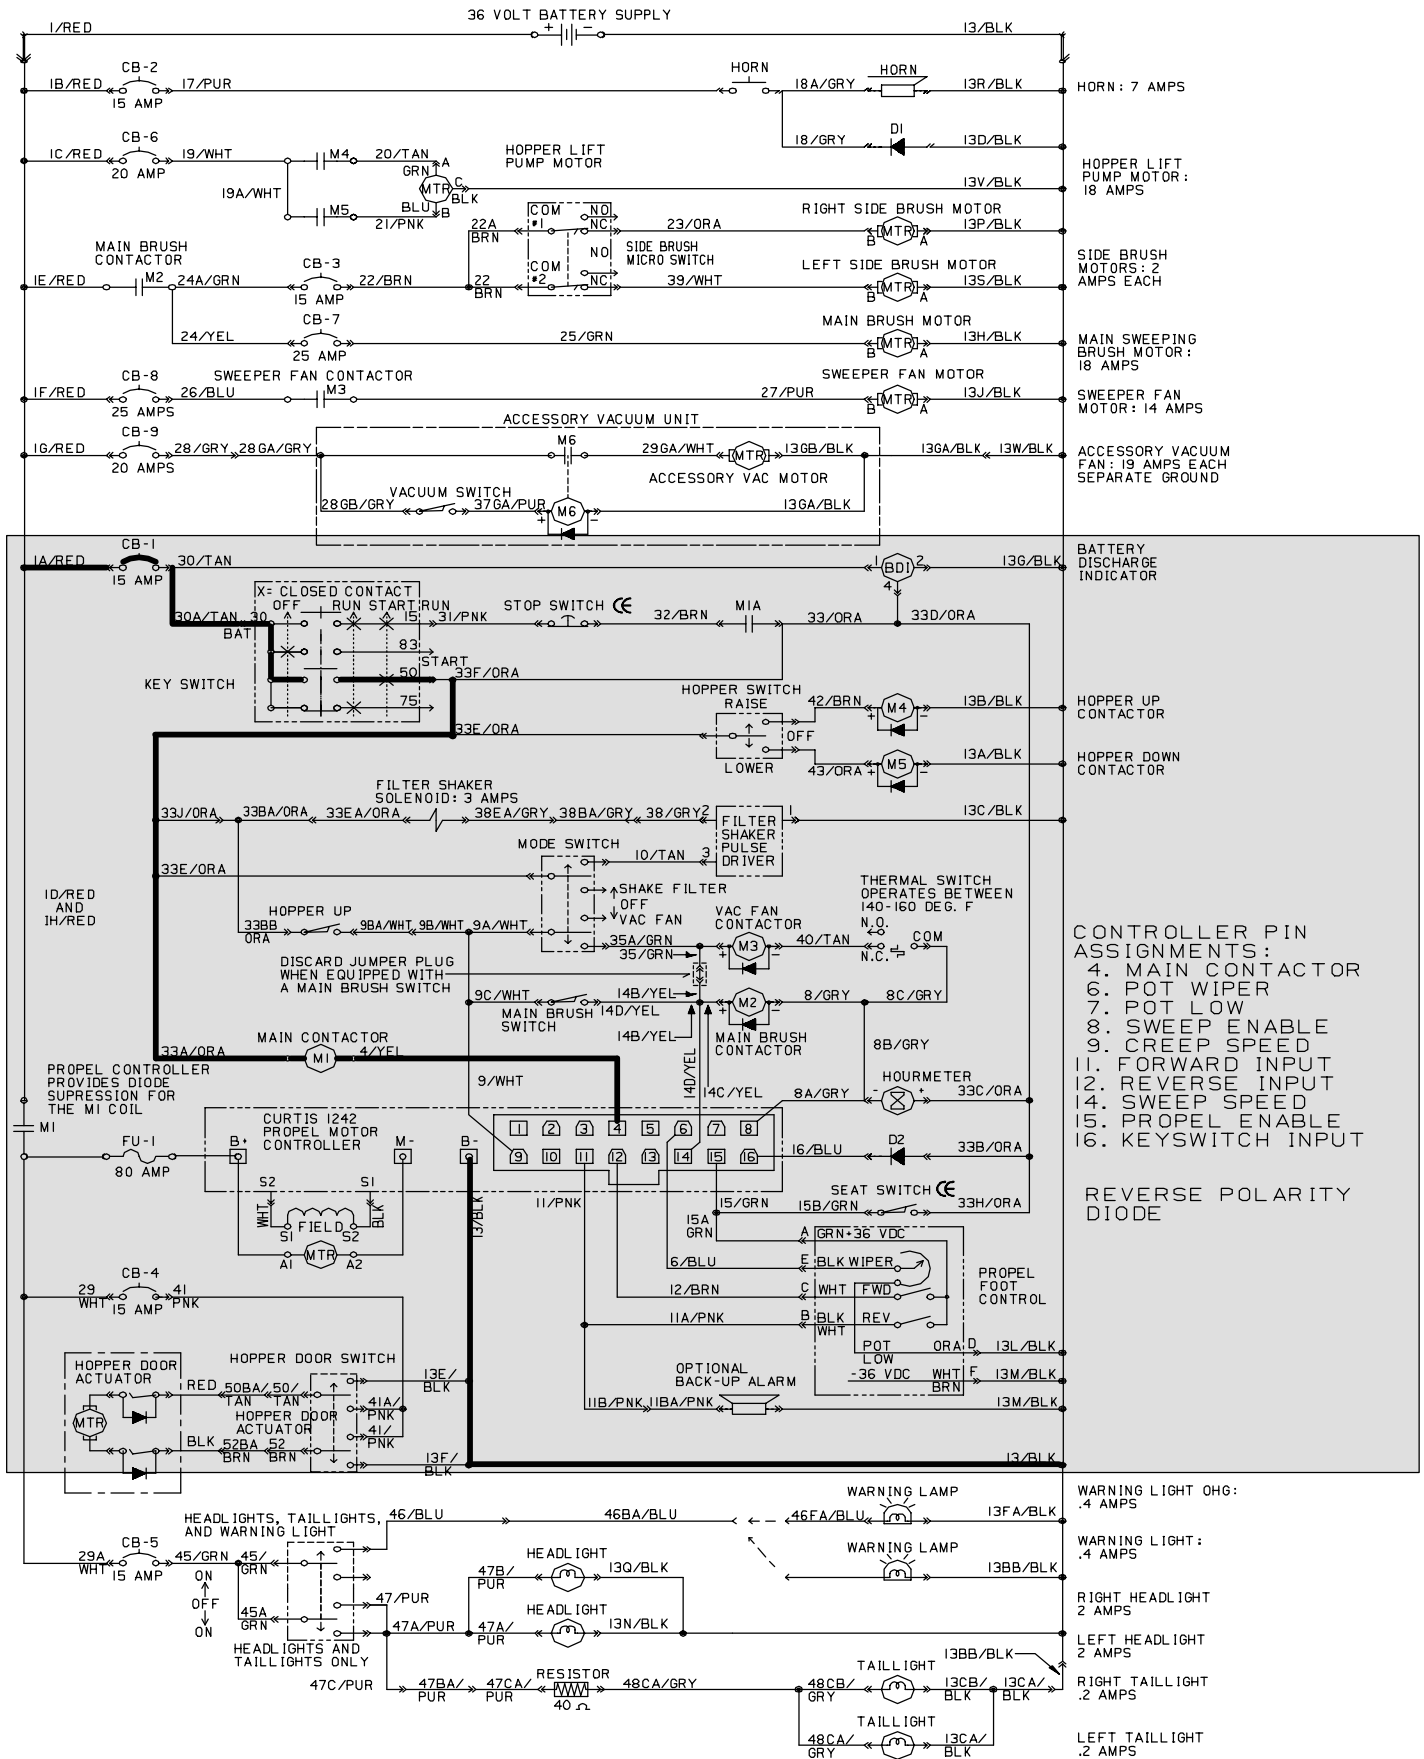

Fig. 2
2. Propel motor controller provides -36 volts to the M1 coil. (see Fig. 2)